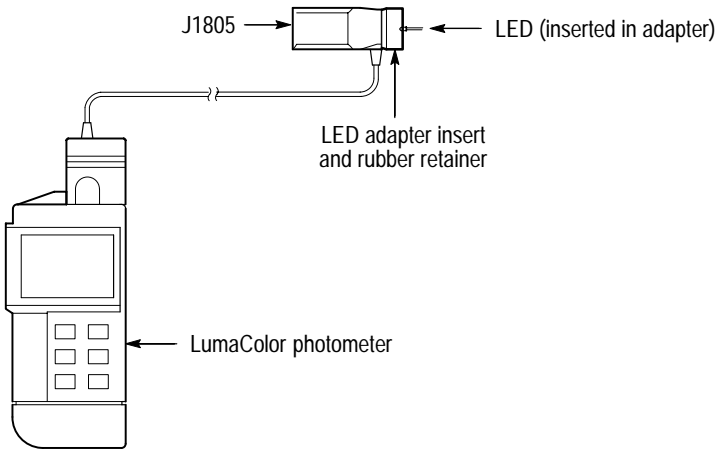

Figure 1–7: J1805 setup for LED luminous intensity measurements
4. Position the J1805 head over the LED. Refer to Figure 1–7.